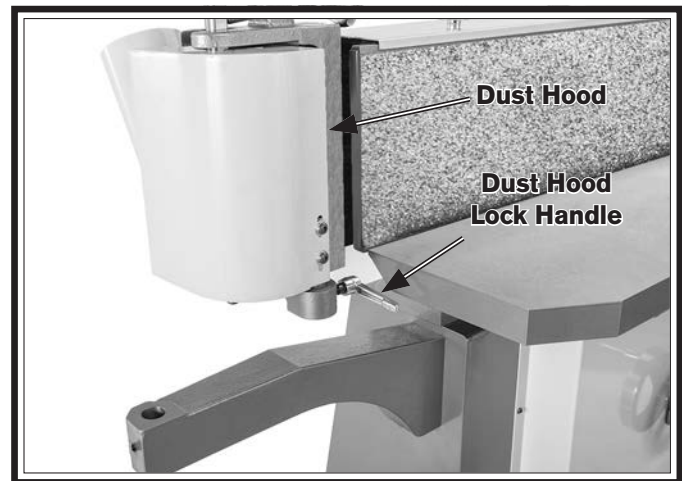

Figure 15. Location of dust hood lock handle.
3. Loosen dust hood lock handle to open end table dust hood (see **Figure 15**).